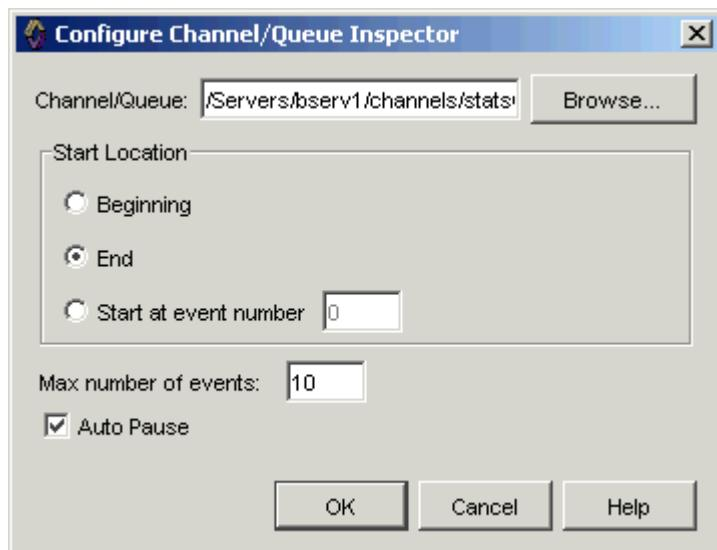

Figure 27-16 Channel/Queue Inspector
2. In the **Configure Channel/Queue Inspector** dialog box (Figure 27-16), specify: